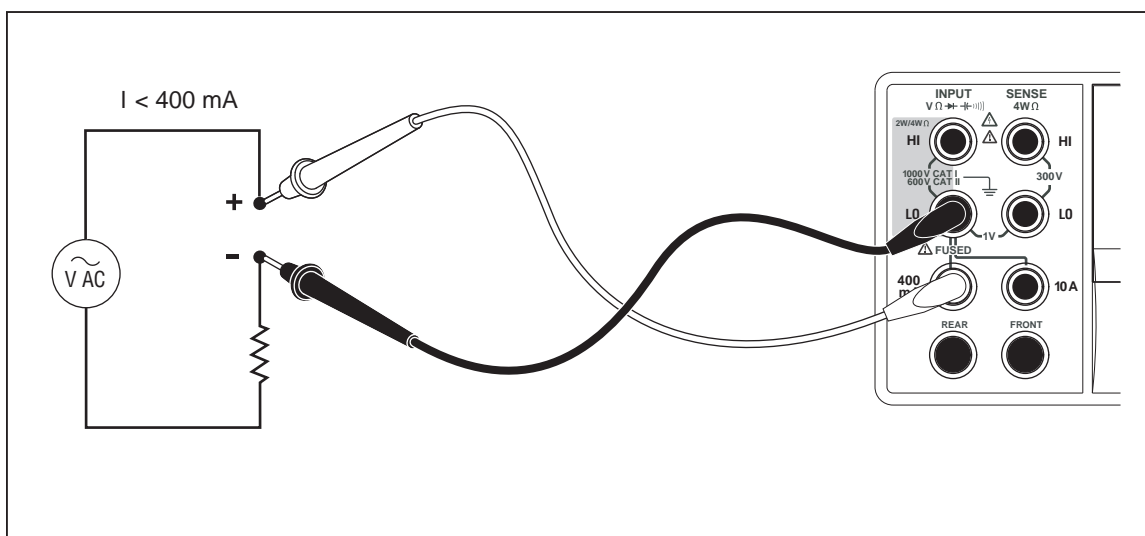

Figure 4-4. Input Connections for Current Measurements Below 400 mA
The Meter is capable of making both ac and dc current measurements up to 10 A. Two separate input connectors, in conjunction with the **LO** connector, are used for current measurements. For best resolution, current measurements not exceeding 400 mA should be made using the **LO** and **mA** input connectors as shown in Figure 4-4.
1. Connect the test leads between the Meter’s input connectors and the measured circuit as shown in Figure 4-4 for currents 400 mA or less or Figure 4-5 for currents up to 10 amps.
- Connect the test leads between the Meter's input connectors and the measured circuit as shown in Figure 4-4 or Figure 4-5, based on the anticipated level of current.